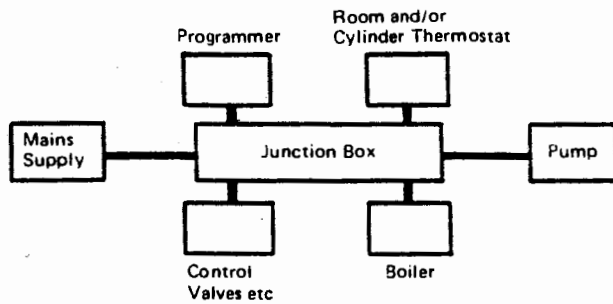

FIG. 4 PRINCIPLE OF WIRING
5. WIRING — See Fig. 4 to 10
The boiler terminal strip is not designed to accept wiring from all the on-site system controls and therefore, the installer will need to incorporate a suitable junction box. The principle of wiring up the boiler and its controls is shown in Fig. 4. However, the layout of a particular system will itself govern the most economical location for the junction box and its terminals.